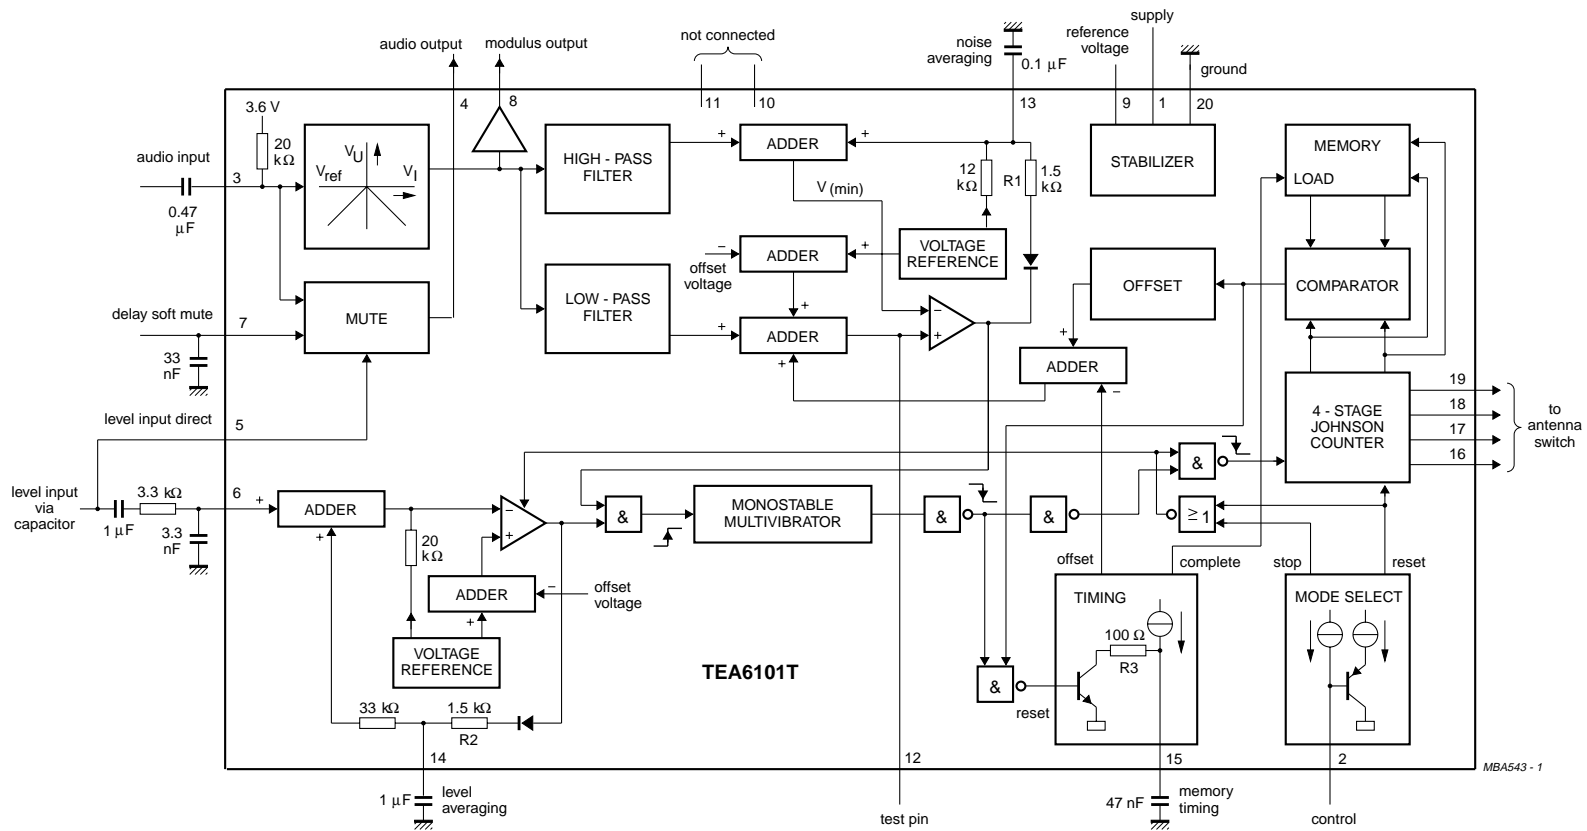

Fig.1 Block diagram.
A rectifier, high pass filter, low pass filter and a comparator are used to detect spikes and noise on the audio signal (see Fig.1). The negative spikes are detected by the rectifier whilst a high pass filter removes the audio signal to leave the high frequency signal components at the negative input to the comparator. The signal at the positive input to the comparator consists of an offset together with an audio signal attenuated by the low pass filter. If the amplitude of the spikes exceed that of the attenuated audio plus offset, the output of the comparator is HIGH.
Measurements using application circuit (Fig 1) at $T_{amb} = 25\text{ °C}$ and $V_P = 8.5\text{ V}$. Voltages with respect to pin 18 (20); pin numbers in parenthesis refer to TEA6101T; all currents positive into the IC unless otherwise specified.